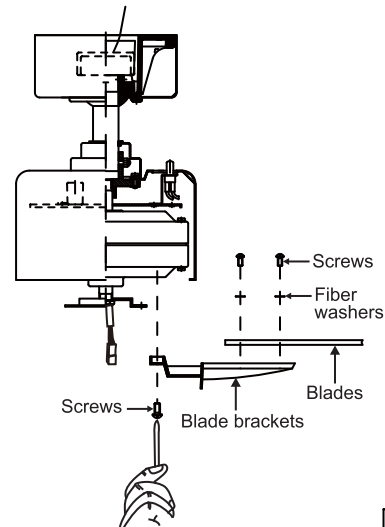

Fig. 16
Step 1. Attach a blade to a blade bracket using the screws and fiber washers provided. (Fig. 16)
Step 2. Attach each blade assembly to the motor using the "Pre-Installed" mounting screws in the blade bracket. (Fig. 16)